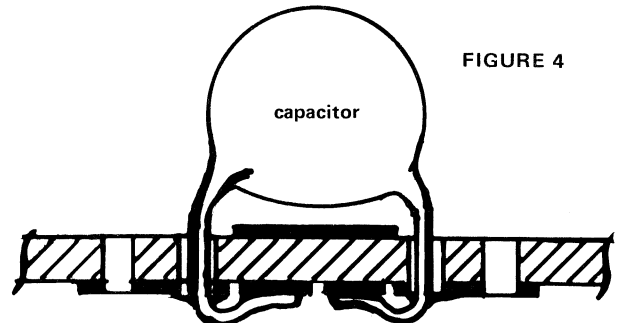

FIGURE 4
8. Mounting and connecting decoupling capacitors between DIPs: Put capacitor leads through same line of holes on 0.3" span and bend, clip and solder leads to power and ground buses per figure 4.